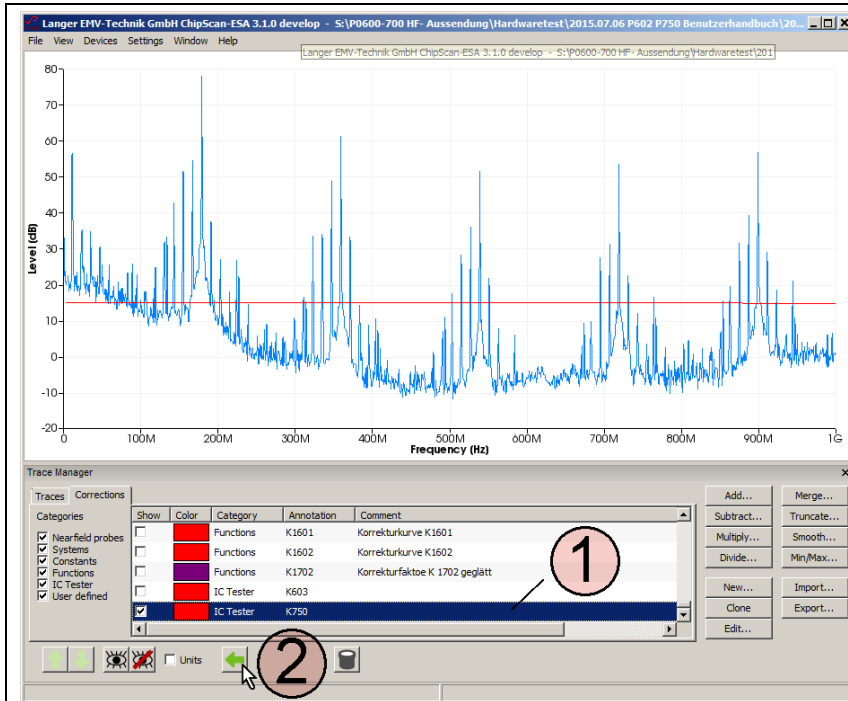

Figure 31: Correction after the measurement; copying K750 from the "Corrections" list to the "Traces" list.
Click the "Select" button (mouse cursor ① **Figure 31**) under "Correction" in the "Spectrum Analyzer Manager" to select the respective correction curve.